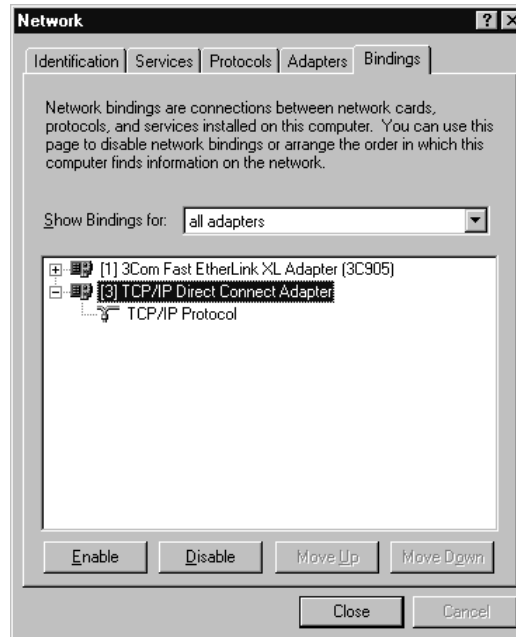

Figure 5-18. Adapter Bindings
- Click on Bindings. Show bindings for all adapters (Figure 5-18). Check that only the TCP/IP Protocol is bound to the TCP/IP Direct Connect Adapter. Disable any other service or protocol bound to TCP/IP Direct Connect.